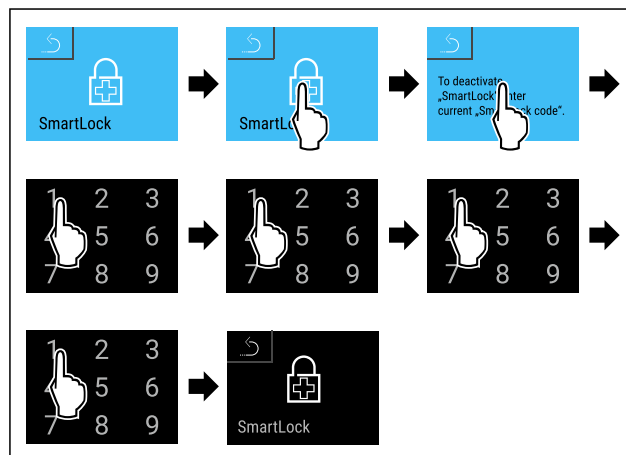

Fig. 84
- ▶ Complete steps (see Fig. 84).